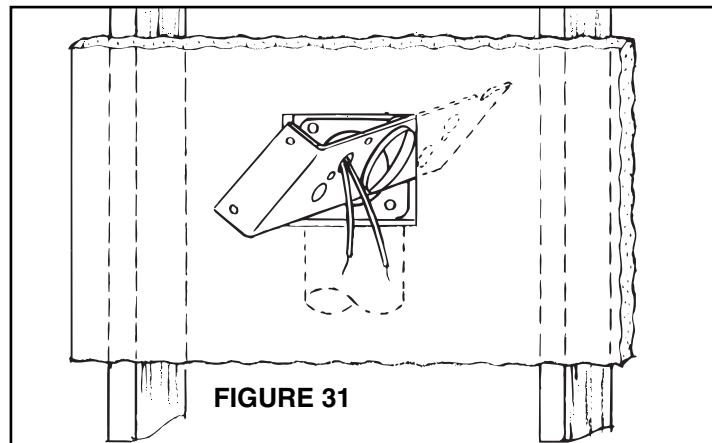

FIGURE 31
8. Remove plaster frame from mounting bracket. Pull low voltage wire through hole in bracket and insert bracket into cutout. Secure bracket to flanged fitting with four screws provided. Be sure seal is secure between flange fitting and mounting bracket (Figure 31).